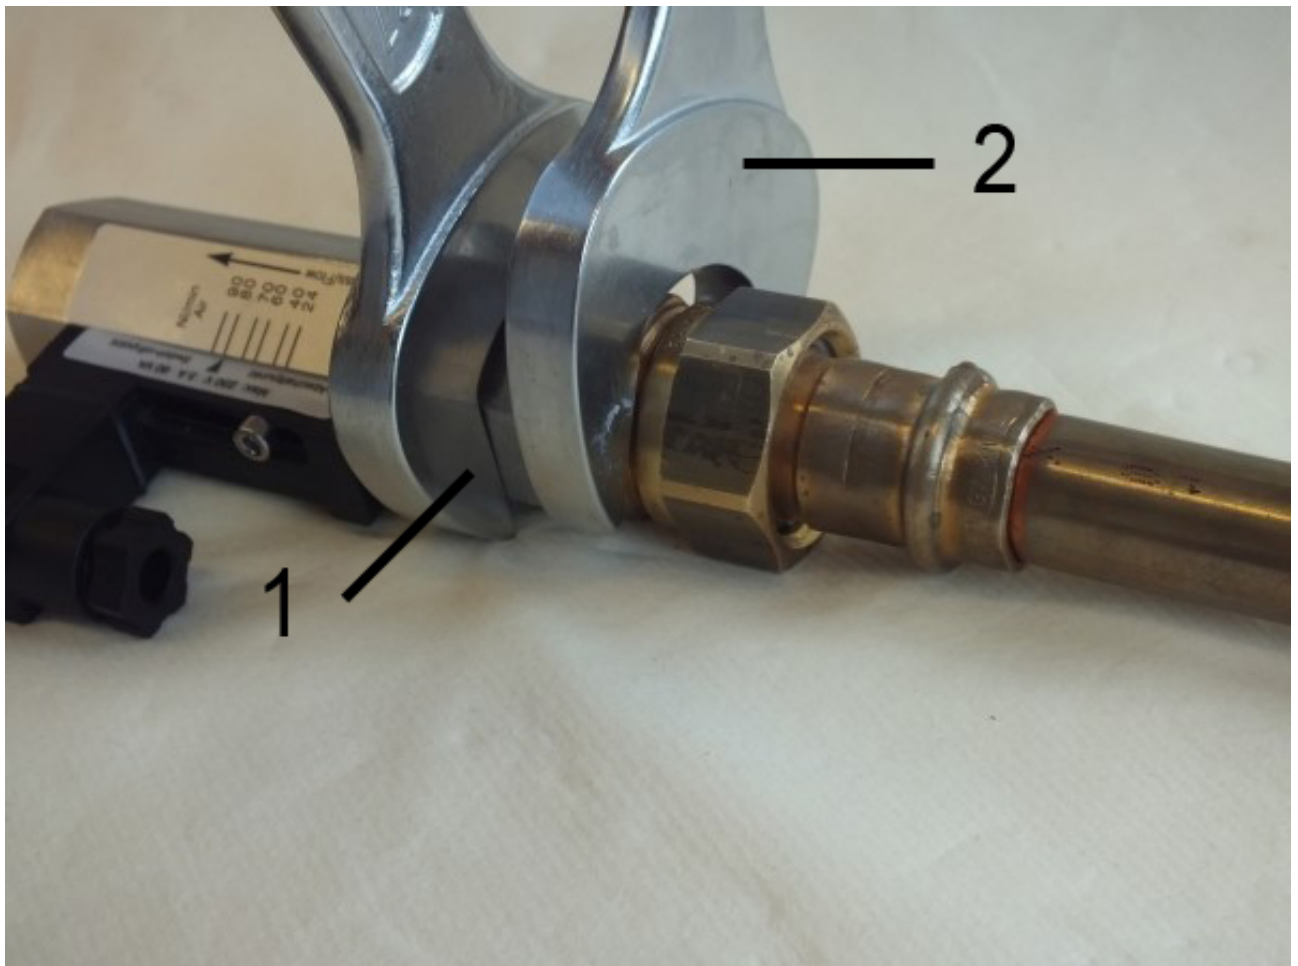

Fig. 11: Screw in the device
2. ➔ Fasten the adapter union of the pipeline with an appropriate spanner (*Fig. 11/2*). When doing so, lock the process connector in place to prevent slip, using a suitable spanner (*Fig. 11/1*).